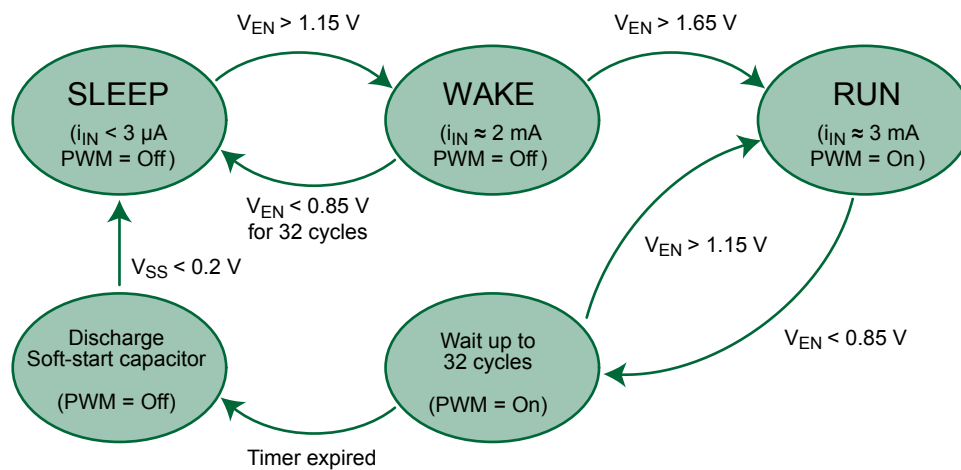

Figure 3. EN/SYNC voltage and A8584 operating modes
- A simple logic input. If EN/SYNC is a logic low ($V_{EN/SYNC} < V_{ENIL}$), then the A8584 and V_{OUT} will be off. If EN/SYNC is a logic high ($V_{EN/SYNC} > V_{ENIH}$), the A8584 will turn on and, provided there are no fault conditions, soft start will be initiated and V_{OUT} will ramp to its final voltage in a time set by the soft start capacitor (CSS). (The operating modes of the A8584 based on EN/SYNC voltage are summarized in figure 3.)
The A8584 protects itself from over-heating, with an internal thermal monitoring circuit. If the junction temperature exceeds the upper thermal shutdown threshold (T_{TSD} , nominally 165°C) the voltages at the soft start and COMP pins will be pulled to GND and both the upper and lower MOSFETs will be shut off. The A8584 will stop PWM switching and stay in WAKE state (see figure 3). It will automatically restart when the junction temperature decreases more than the thermal shutdown hysteresis (T_{TSDHYS} , nominally 20°C).